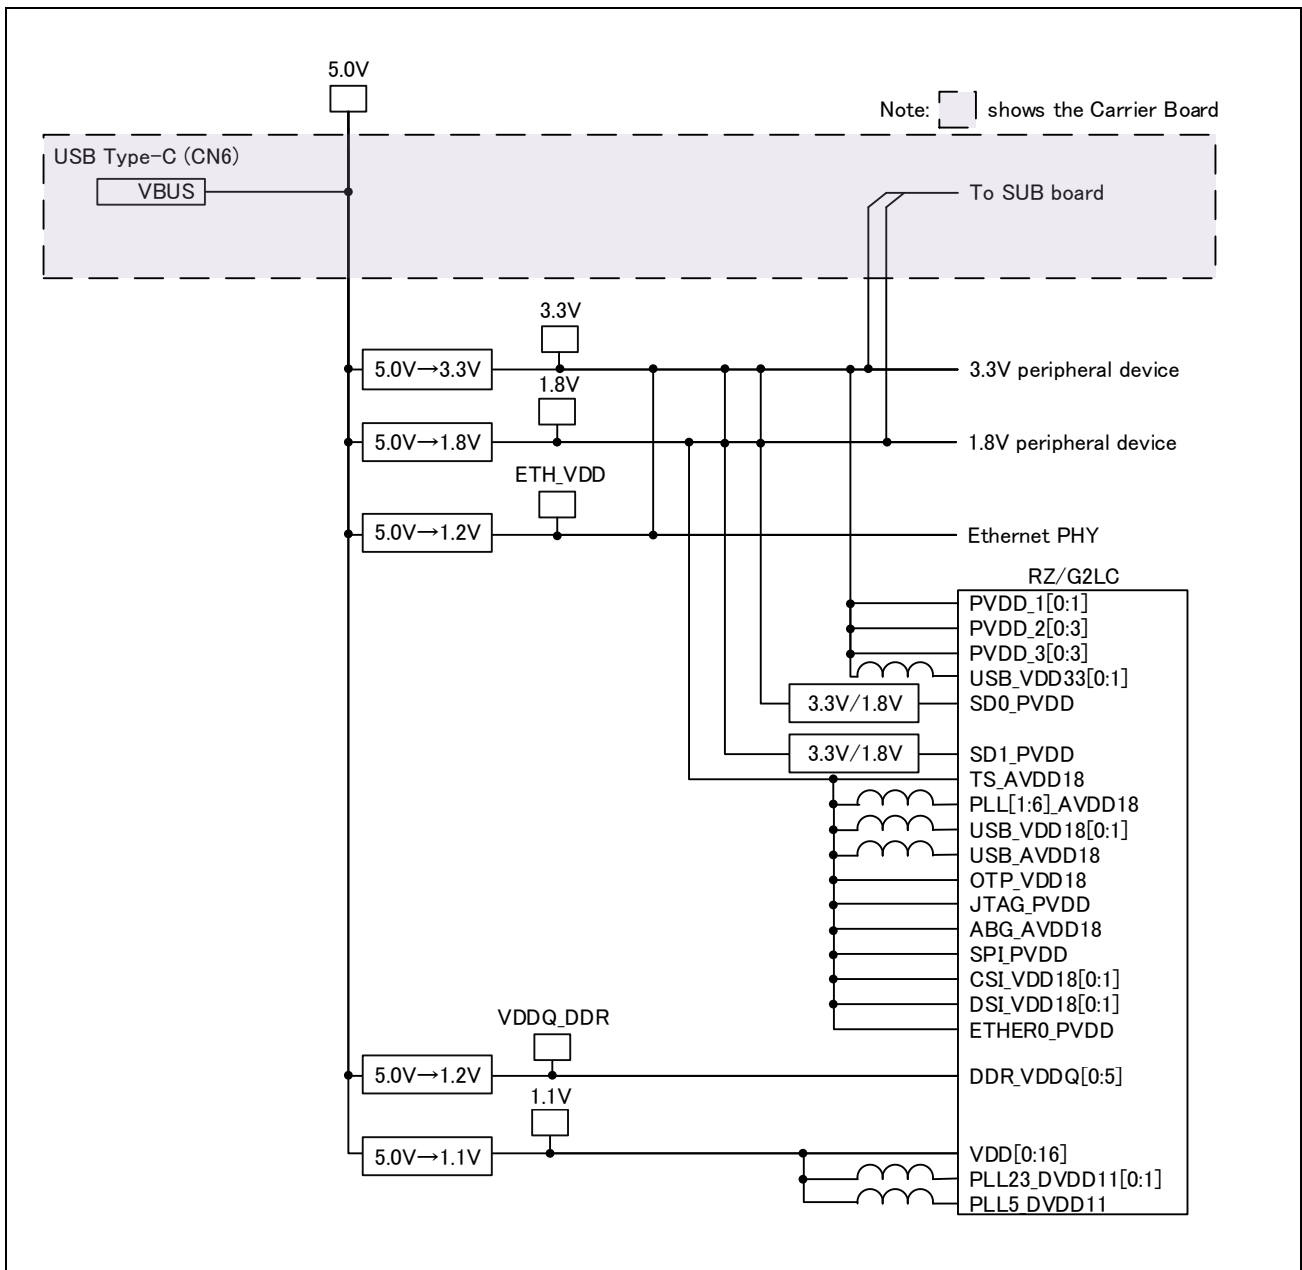

Figure 2.6 Power Configuration Diagram
**Figure 2.6** shows a block diagram of power configuration for RTK9744C22S01000BE (RZ/G2LC Evaluation Board Kit).